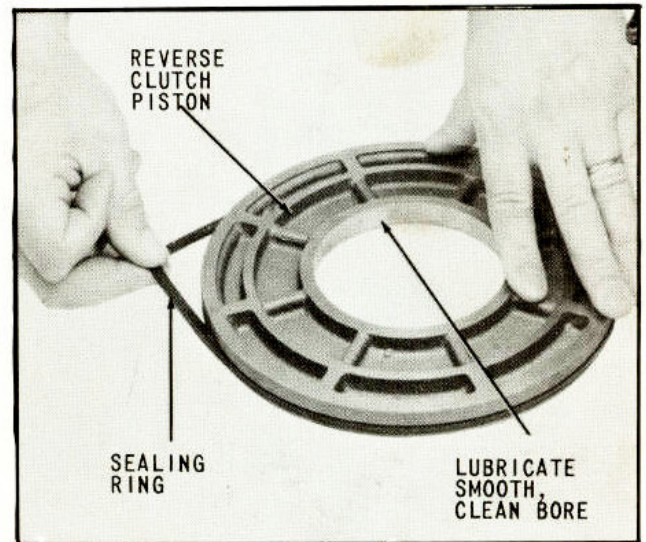

Fig. 55 Assembling Sealing Ring
54. After lubricating sealing ring with petroleum jelly, assemble in groove of reverse clutch piston, as shown in (Fig. 55).